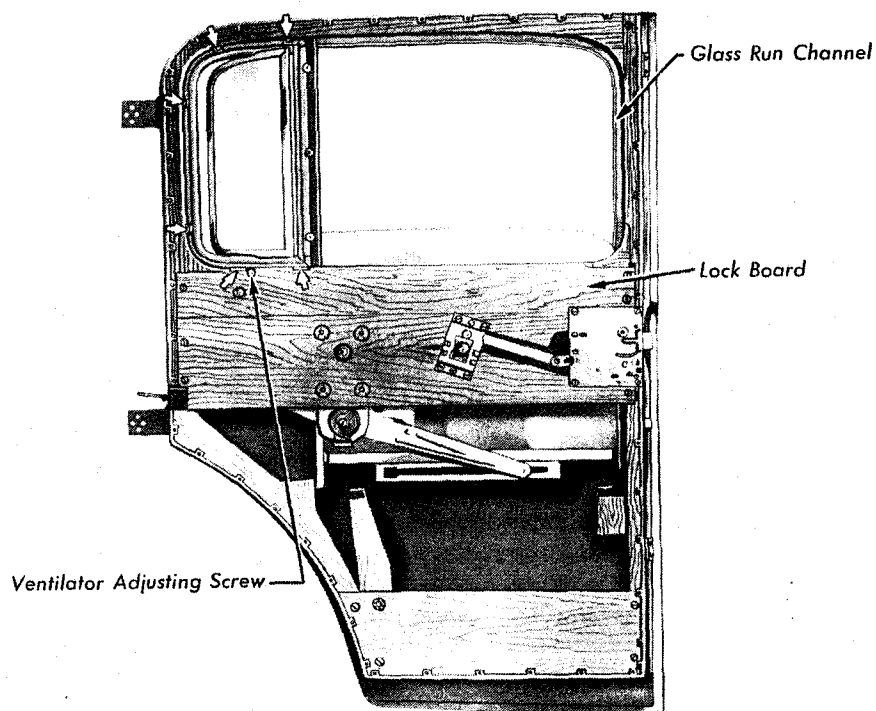

Fig. 1
4. Loosen trim at bottom of door just far enough up to reach the window lift cam (See Figs. 1 and 2, Plate 7A) at the lower edge of the glass with the glass in its lowest position. Removal of the trim entirely is not recommended as it would then be necessary to relocate the trim on the door when installing it.